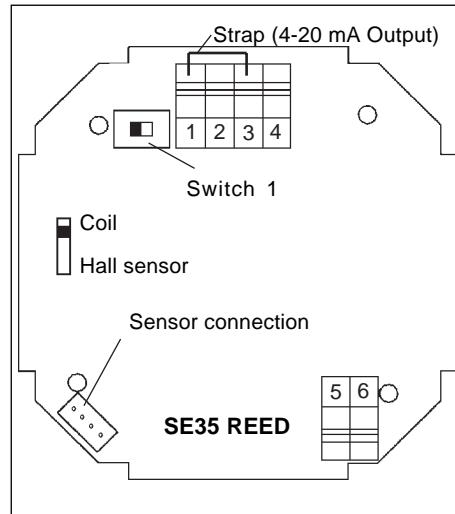
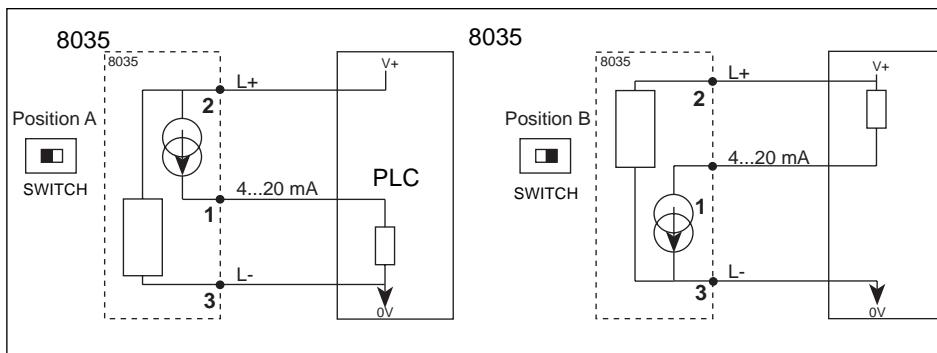

Fig. 3.9 Wiring SE35 with relay REED
Fig. 3.10 SE35 with relay REED, 4-20 mA output connection to a PLC
Ensure the electrical wiring via 2 cable glands. Remove cover, pull cable through PG 13.5 and wire according to following pin assignment (fig. 3.9):
**PLC-connection:** Depending on the PLC-version, set the switch 1 on the circuit board to position A or B (fig. 3.9 and fig. 3.10).
**4-20 mA Output:** If the 4-20 mA current output is used, remove the strap (1-3) (fig. 3.9).
**Warning:** If the current output 4...20 mA is not used: set the switch 1 in position A (fig. 3.10) and the strap between 1-3 (fig. 3.9).
**!** If the current output 4...20 mA is not used: set the switch 1 in position A (fig. 3.10) and the strap between 1-3 (fig. 3.9).